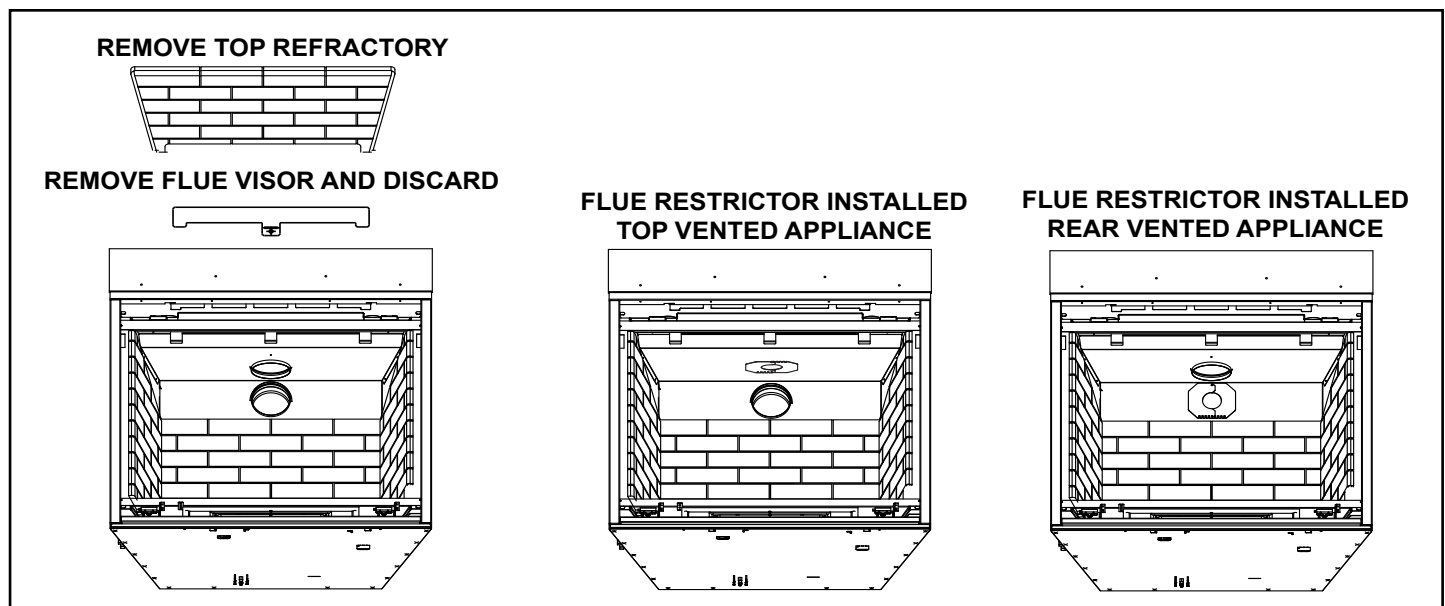

Figure 4.16
1. Remove the top piece of refractory, if already installed. See Figure 4.16.
2. Remove the flue visor and discard. See Figure 4.16.
5. Center the two flue restrictor pieces on the vent at the setting selected in step 4 and secure in place by using two self-tapping screws. See Figure 4.16.